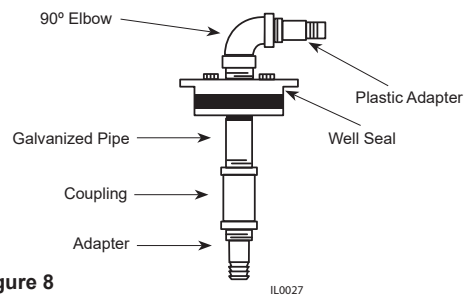

Figure 8
- On captive air tank installation, assemble as illustrated (See Figure 8).